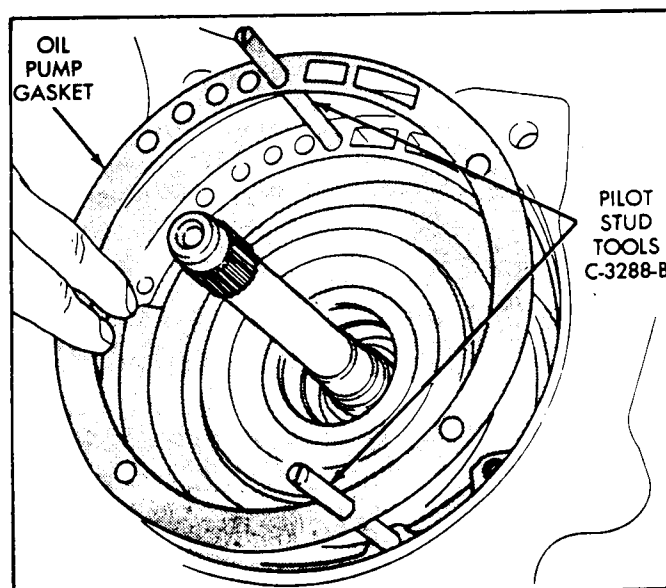

Figure 142
32. Install two threaded pilot studs into the case, as shown in Figure 142.
33. Align and install a new front oil pump gasket over the pilot studs, as shown in Figure 142.